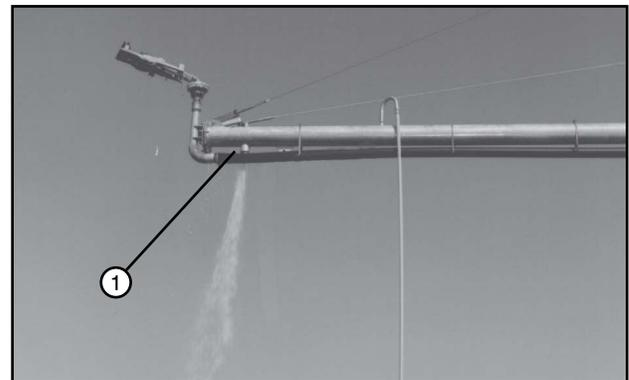

Figure 89-3 1. Sand Trap
5. Remove plugs from the overhang drains. Clean sand and foreign particles from these drains. Turn the rubber drain seal over when reinstalling. See Figure 89-3.